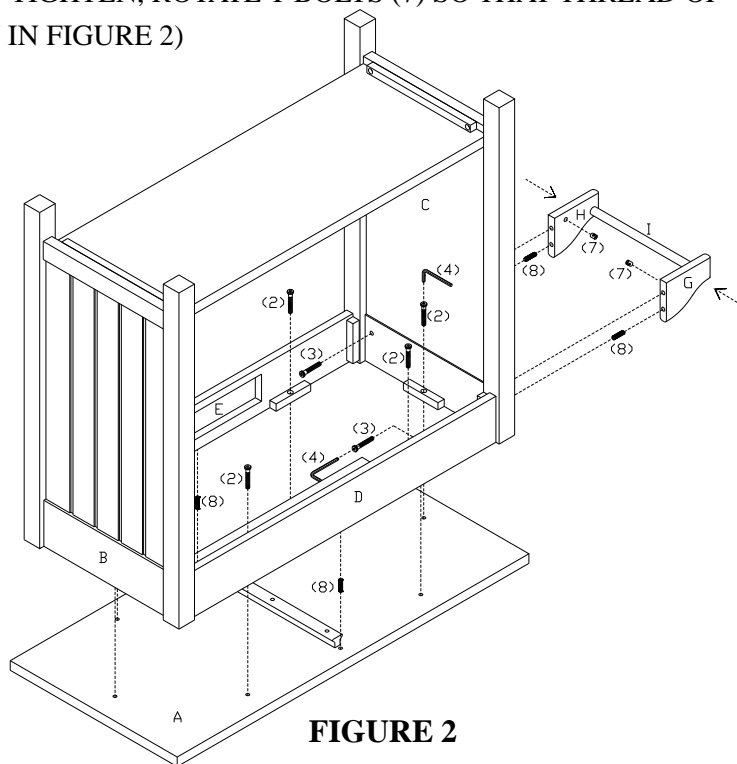

FIGURE 2
4. INSERT WOOD DOWELS (8) INTO PREDRILLED HOLES ON UNDERSIDE OF TOP (A) AND FIT INTO CORRESPONDING HOLES ON EDGES OF FRONT AND BACK PANELS (E, D). INSERT SHORT MACHINE SCREWS (2) THROUGH PREDRILLED HOLES ON WOOD BARS ON PARTS (B, C, D, E) AND TIGHTEN INTO PRETHREADED HOLES ON UNDERSIDE OF TOP (A) BY USING WRENCH (4). (AS SHOWN IN FIGURE 2)
5. FIT WOOD BAR (I) INTO THE HOLES ON LEFT AND RIGHT HOLDERS (G, H). INSERT WOOD DOWELS (8) INTO PREDRILLED HOLES ON LEFT AND RIGHT HOLDERS (G, H) AND FIT INTO CORRESPONDING HOLES ON OUTSIDE OF RIGHT SIDE PANEL (C). INSERT T-BOLTS (7) INTO THE HOLES ON LEFT AND RIGHT HOLDERS (G, H), AND TIGHTEN LONG MACHINE SCREWS (3)
THROUGH PREDRILLED HOLES ON RIGHT SIDE PANEL (C) INTO T-BOLTS (7) BY USING WRENCH (4). PLEASE NOTE THAT IF SCREWS DO NOT TIGHTEN, ROTATE T-BOLTS (7) SO THAT THREAD OF T-BOLTS ARE FACING SCREWS. (AS SHOWN IN FIGURE 2)